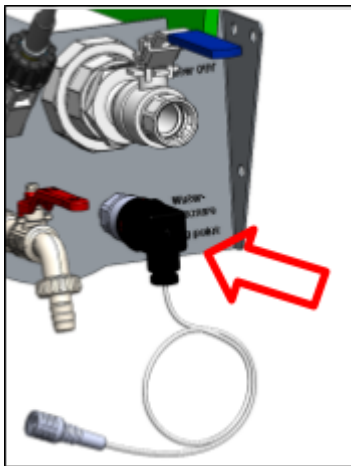

Figure 51.
- o The pressure sensor is mounted on the right side of the mixing tank (see Figure 51).